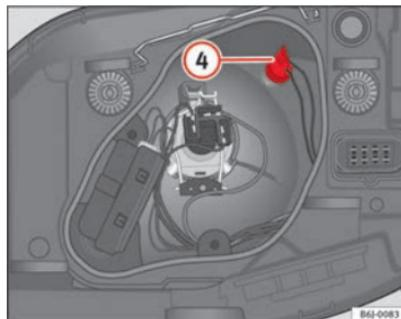

Fig. 147 Side lights
- Remove the bulb holder ④ ⇒ fig. 147 outwards.